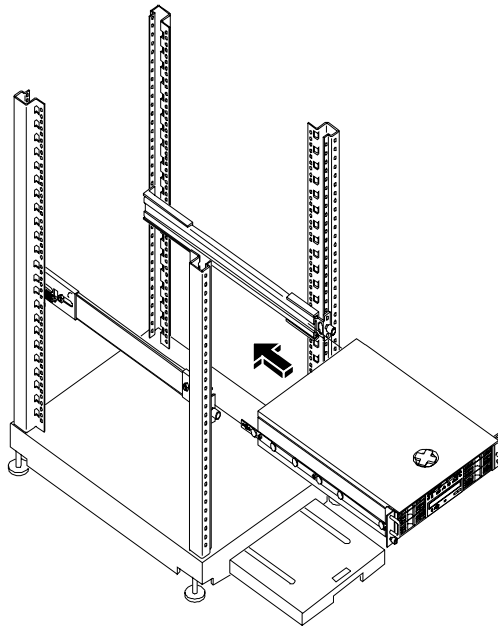

Figure 7-5. Mounting the HP Netserver on the Slides
- b. Slowly insert the HP Netserver chassis into the slides and push it into the rack until you feel resistance. See Figure 7-5.